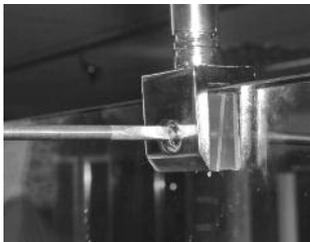

Figure a14
14. Slide the spacers in-between the glass and the Brace Bar glass clamp - this will ensure that no aluminium touches the glass of the Fixed Panel (B). Using a Screwdriver tighten the screw shown in (**Figure a14**).